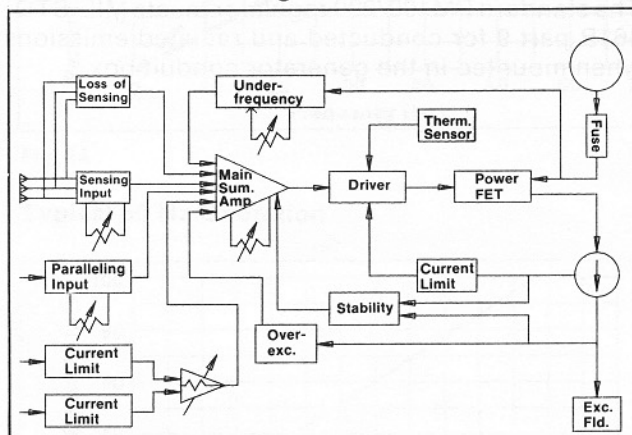

Fig. 3A
There are four basic function blocks to the Magna-MAX Voltage Regulator. These blocks are the sensing input circuit, the main summing amplifier, the pulsed driver circuit, and the power output switching circuit (Figure 3A).
There are six protection features (Figure 3A): (1) loss of sensing, (2) underfrequency, (3) overexcitation, (4) overtemperature, (5) field current limit, and (6) generator current limit (model PM200 only).